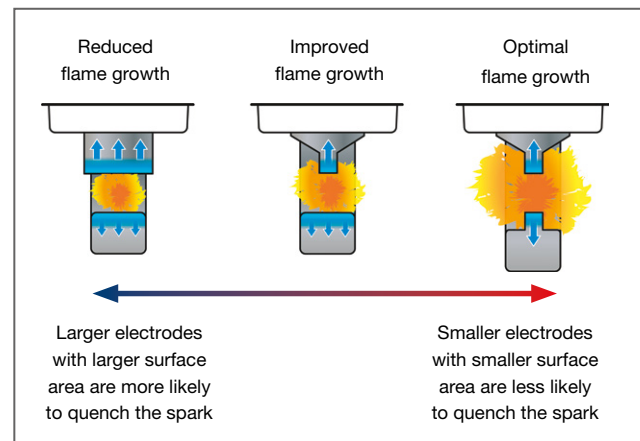

Fig 6.15 Quenching effect created by different size electrodes
**Electrode shape.** The examples shown in Fig 6.15 illustrate how a larger electrode will draw more heat energy from the flame kernel due to the larger mass and larger surface area. When a smaller centre electrode is used, which has a smaller mass and smaller surface area, it will draw less heat away from the flame kernel thus reducing the potential for flame quenching. A smaller ground electrode will again have the same effect of reducing the flame quenching.